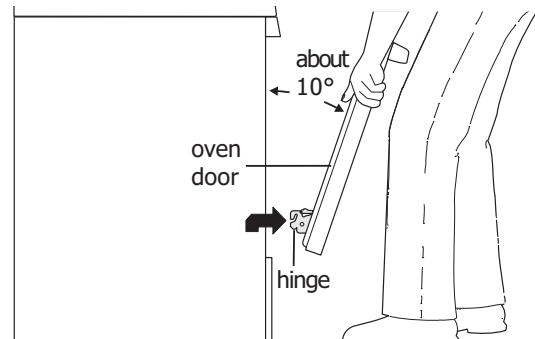
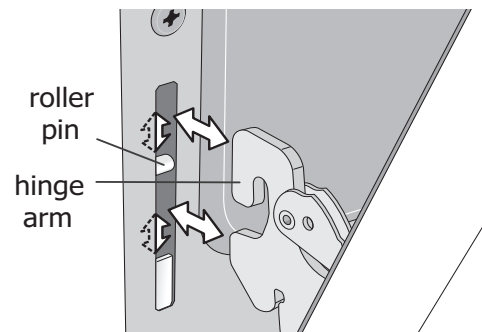

Figure 38: Holding door for removal
Figure 39: Location of hinge arm and roller pin
3. Firmly grasp both sides of oven door along the door sides. Do not use the oven door handle (See Figure 38).
5. Lift the oven door hinge arms over the roller pins located on each side of the oven frame (See Figure 38).
1. Firmly grasp both sides of oven door along the door sides. Do not use the oven door handle (See Figure 38).
2. Holding the oven door at the same angle as the removal position (See Figure 38), seat the hook of the hinge arm over the roller pins located on each side of the oven door frame (See Figure 39). The hook of the hinge arms must be fully seated onto the roller pins.